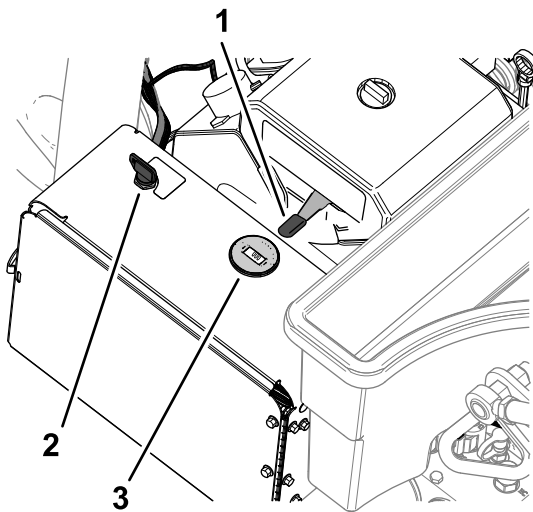

Figure 70
2. Use the choke (Figure 70) as follows: